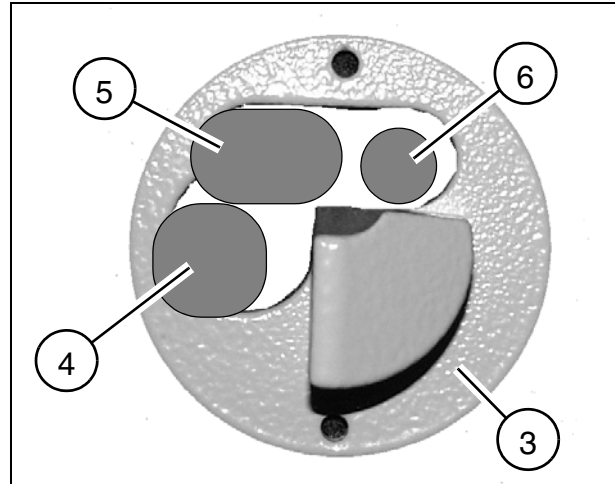

Fig. 24
- Remove the disk (3/Fig. 24) from the corrugated tubing.
- Reattach the disk (3/Fig. 24) to the corrugated tubing, make sure the leads are correctly attached.
- High voltage cable (4/Fig. 24)
- Tubing sections (5/Fig. 24)
- Other lead (6/Fig. 24).
- Route the cables and the hoses according to Fig. 24.